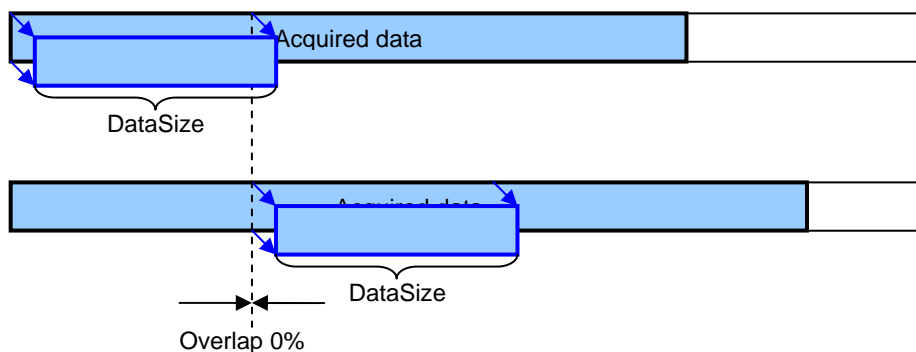
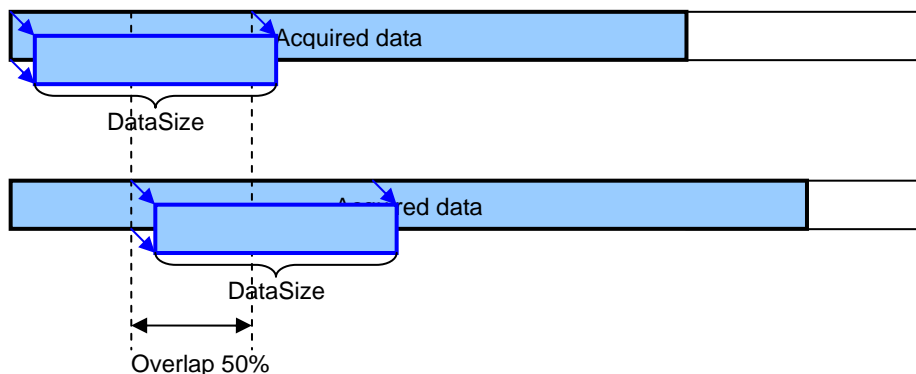

Figure 102 AType set to ctOverlap, Overlap set to 0
Figure 103 AType set to ctOverlap, Overlap set to 50
**1... ctOverlap...** for reading blocks (size specified by “BlockSize”) of data; the percentage of an overlap of the data blocks can be specified by Overlap; Figure 102 illustrates two subsequent calls of GetDataBlocks when AType is set to ctOverlap and Overlap is set to 0%. In Figure 103 Overlap is set to 50%.
Overlap defines how much the data blocks read by two subsequent calls of GetDataBlocks or GetDataBlocks1 should overlap each other, when AType is set to ctOverlap. See Figure 102 and Figure 103 for illustration.